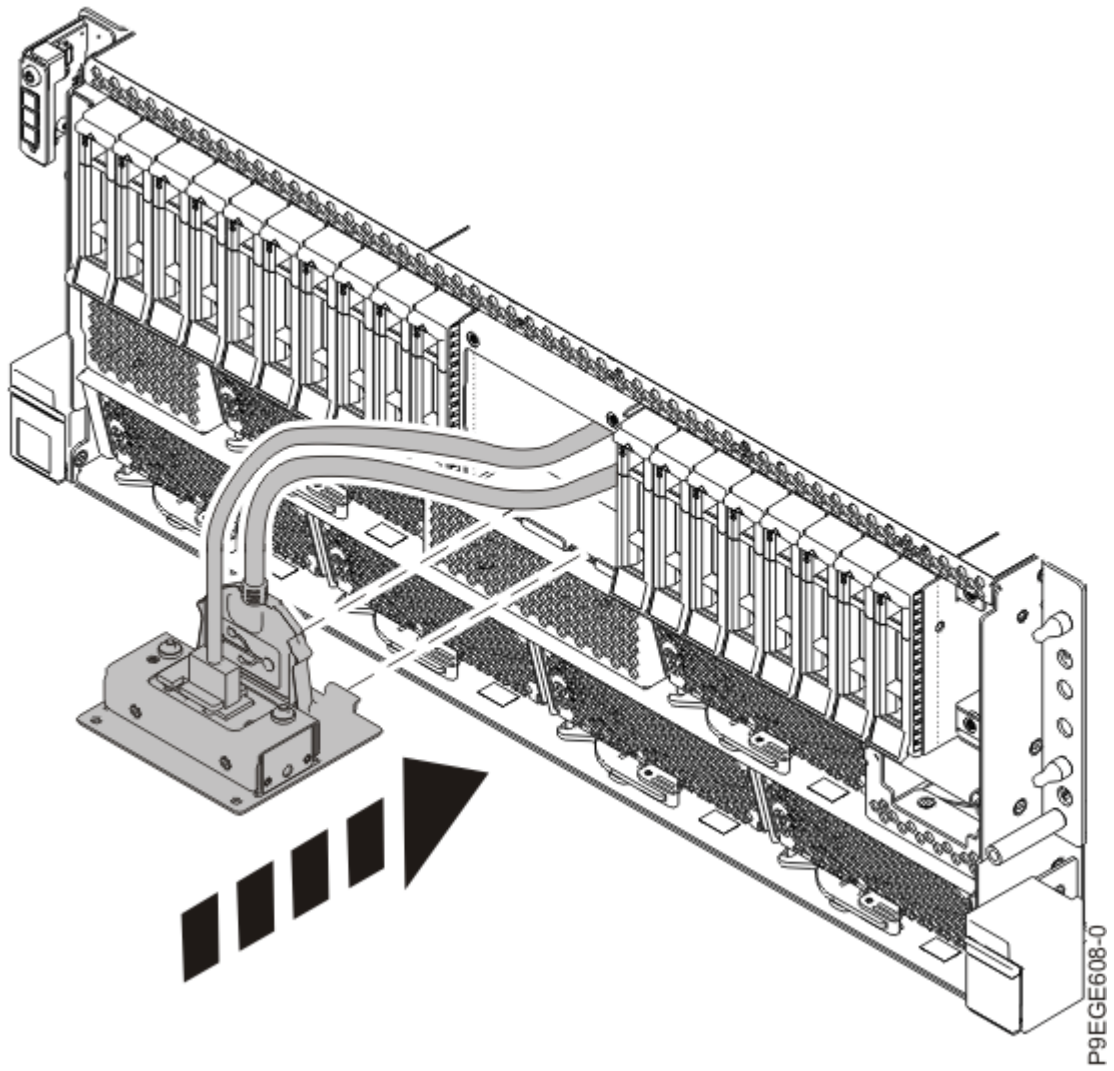
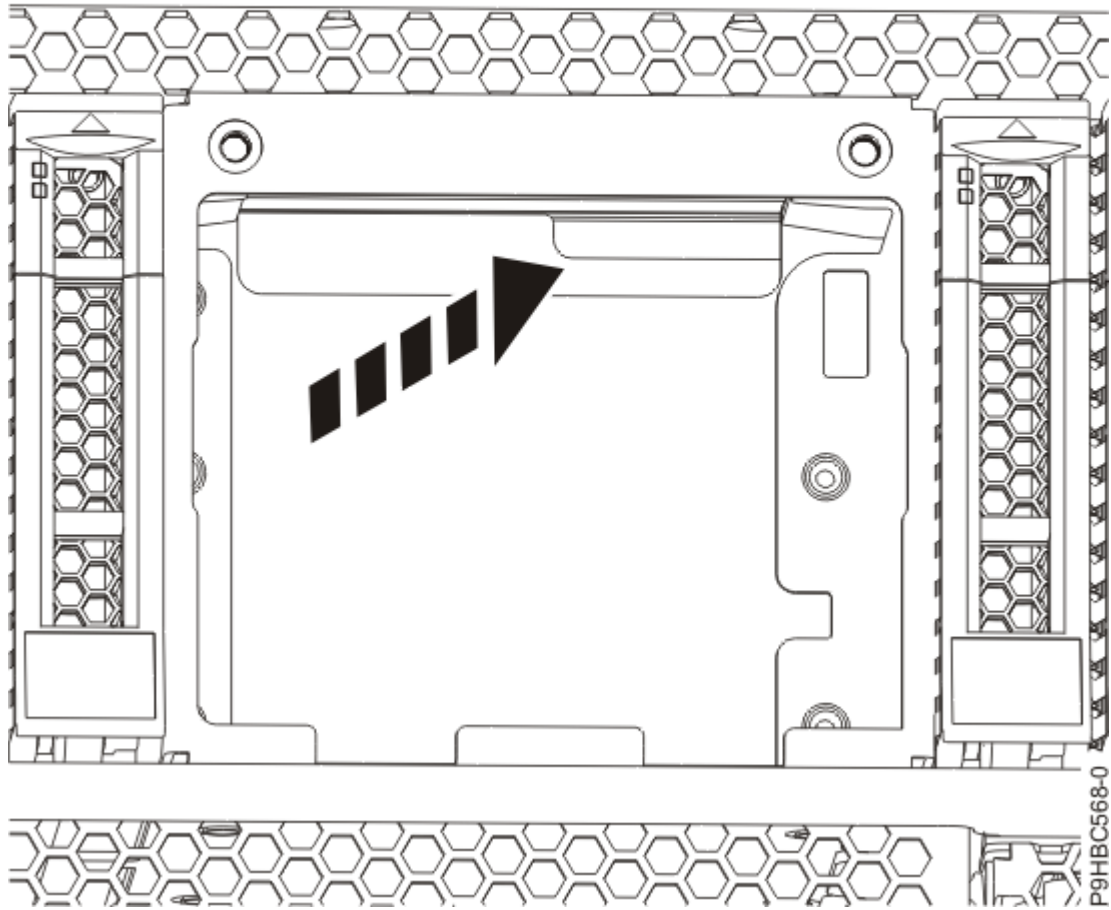

Figure 117. Inserting the control panel display cable for a rack-mounted system
Figure 118. Route the cable through this hole in the chassis for a rack-mounted system
3. For a rack-mounted system, insert the control panel display cable into the system as shown in Figure 117 on page 122, Figure 118 on page 123, Figure 119 on page 124, and Figure 120 on page 125. Pass the cable through the channel along the side of the chassis, being careful not to catch the cable on any components as you insert it.